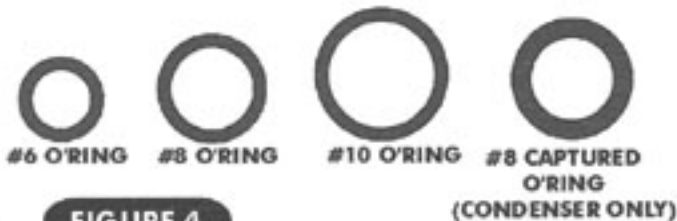
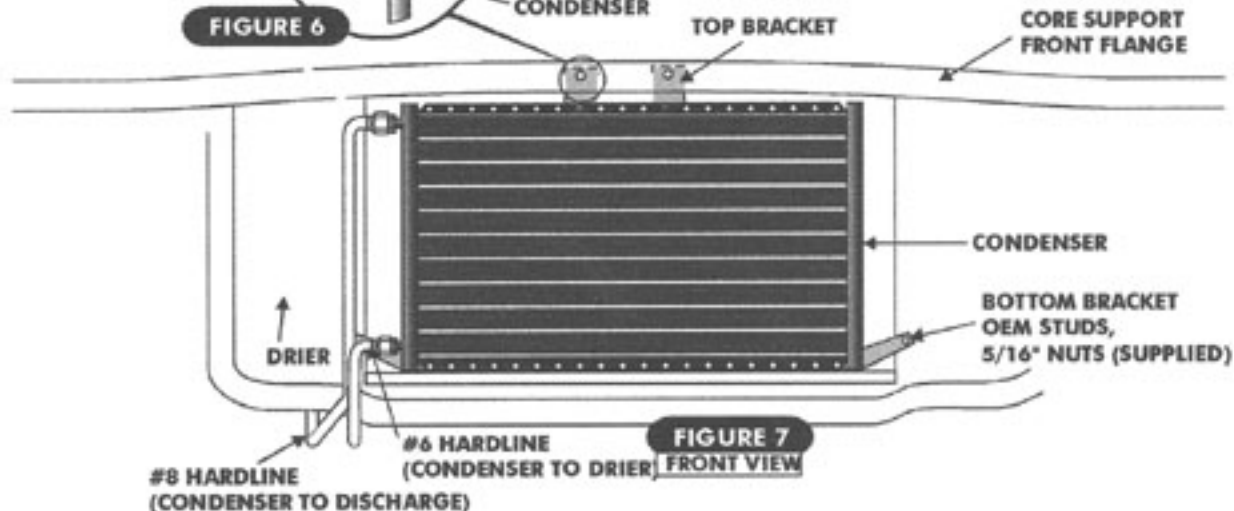
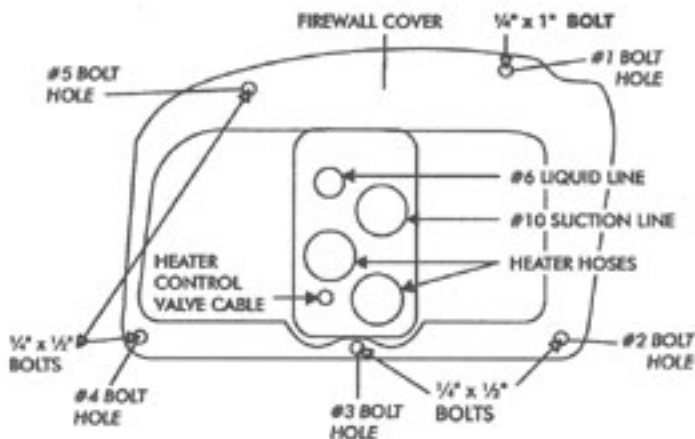
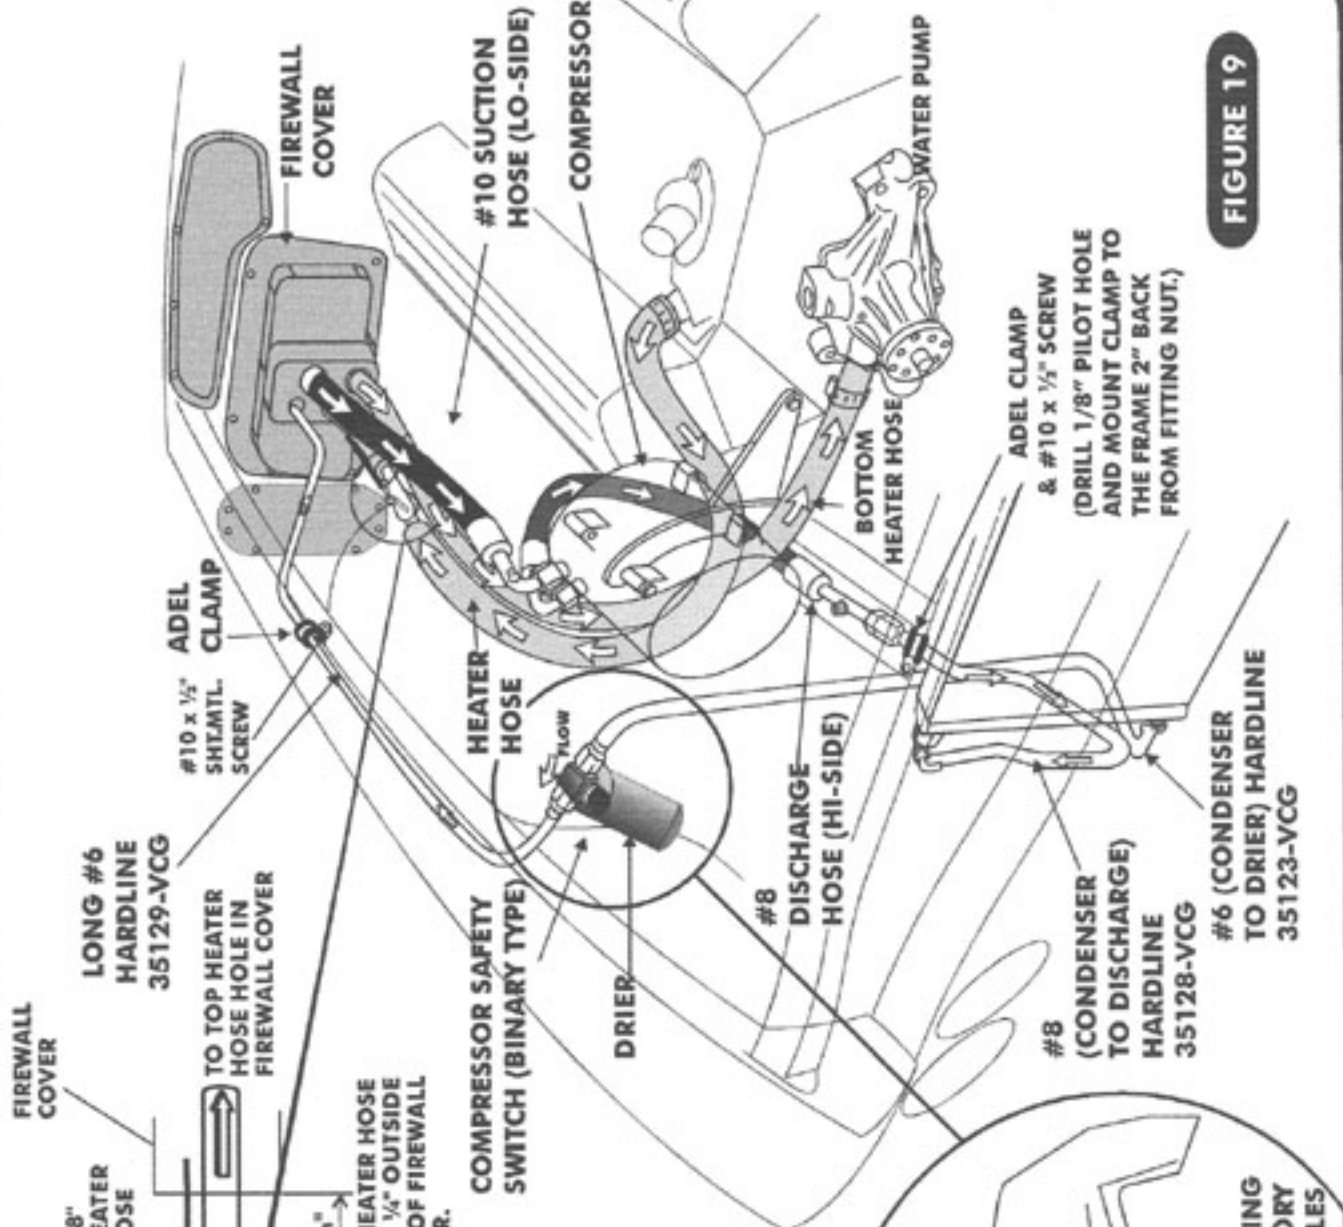

FIGURE 4
FIGURE 7
FIGURE 13
FIGURE 19
- ATTACH CONDENSER TO THE FRONT SIDE OF RADIATOR SUPPORT BY USING THE PROTRUDING RADIATOR ATTACHING BOLTS AS STUDS AND FASTEN WITH THE TWO (2) 5/16" NUTS (SUPPLIED). SEE FIGURE 7, PG. 4.
- LOCATE THE O'RING PACKAGE. THERE IS A SPECIFIC SIZE AND THICKNESS O'RING FOR EACH CONNECTION. THE SMALL WHITE TUBE IS A SPECIFIC OIL FOR O'RINGS AND THREADS. SEE FIGURE 4. O'RINGS SHOULD NOT BE REUSED ONCE A FITTING IS TIGHTENED (DISCARD AND INSTALL NEW O'RINGS). DO NOT OVER TIGHTEN. ALWAYS USE TWO (2) WRENCHES TO PREVENT TWISTING FITTINGS ON HARDLINE (SEE FIGURE 5).
- O-RING (SEE FIGURE 4, PG. 4) AND ATTACH TO THE TOP CONDENSER FITTING. SEE FIGURE 7. ATTACH THE OTHER END TO THE FRAME USING AN ADEL CLAMP AND SHEET METAL SCREW IN THE POSITION SHOWN IN FIGURE 19, PG. 8.
- MOUNT DRIER ON PASSENGER SIDE INNER FENDER-WELL. SEE FIGURE 19, PG. 8. LOCATE THE DRIER BY USING THE O.E.M. DIMPLES AND THE #6 LIQUID LINE FOR EXACT LOCATION. DRILL A 3/8" HOLE IN THE O.E.M. DIMPLE ON FENDER-WELL TO MOUNT THE DRIER.
- REMOVE PIPE PLUG FROM DRIER AND INSTALL BINARY SAFETY SWITCH (INCLUDED IN CONDENSER KIT). SEE FIGURE 19, PAGE 8.
- LOCATE #6 (CONDENSER TO DRIER) HARDLINE AND TWO (2) #6 O-RINGS. LUBRICATE AND INSTALL O-RINGS (SEE FIGURE 4, PG.4) ON THE LINE AND ATTACH TO THE LOWER CONDENSER FITTING AND INLET FITTING ON THE DRIER. SEE FIGURES 7, THIS PAGE AND 19, PG. 8.. TIGHTEN USING TWO WRENCHES (SEE FIGURE 5, PG. 4).
FIREWALL COVER INSTALLATION (SEE FIGURE 13)
- APPLY A BEAD OF SEALER (1/4" TALL) AROUND THE INSIDE EDGE OF FIREWALL COVER AND INSTALL ON THE OUTSIDE OF THE FIREWALL USING FOUR (4) 1/4" x 1/2" BOLTS & NUTS SUPPLIED.
- ATTACH FRESH AIR CAP TO FIREWALL WITH 1/4" x 1" BOLT & 1/4" BEAD OF SILICONE. (SEE FIGURE 13).
- WITH STUD IN PLACE RAISE EVAPORATOR UP AND ALIGN STUD WITH FIREWALL BOLT HOLE #1 (SEE FIGURE 13).
- LOCATE THE (EXPANSION VALVE TO FENDER) #6 HARDLINE AND TWO (2) #6 O'RINGS. LUBRICATE O'RINGS (SEE FIGURE 4, PG. 4) AND ROUTE 90° END THRU TOP FIREWALL COVER OPENING (SEE FIGURE 13) AND ATTACH HAND TIGHT TO EXPANSION VALVE (SEE FIGURE 18, PG. 7). ATTACH OTHER END TO THE #6 HARDLINE FROM THE DRIER. TIGHTEN AT EXPANSION VALVE USING TWO (2) WRENCHES (SEE FIGURE 5, PG. 4) THEN TIGHTEN THE CONNECTION INSIDE THE FENDER-WELL. ALSO TIGHTEN THE CONNECTION AT THE DRIER.
- DRILL 1/8" HOLES FOR ADEL CLAMPS IN POSITION NOTED IN FIGURE 19, PG. 8, AND INSTALL ADEL CLAMPS USING SUPPLIED #8 x 1/2" SCREWS.
- LOCATE THE #8 DISCHARGE HOSE AND TWO (2) #8 O-RINGS. LUBRICATE O-RINGS (SEE FIGURE 4, PG. 4) AND CONNECT THE 135° FITTING TO THE COMPRESSOR'S DISCHARGE PORT AND THE OTHER END TO THE #8 HARDLINE ATTACHED TO THE FRAME AND TIGHTEN USING TWO (2) WRENCHES (SEE FIGURE 5, PG. 4).
- LOCATE THE #10 SUCTION HOSE AND TWO (2) O-RINGS. LUBRICATE O-RINGS AND THREADS (SEE FIGURE 4, PG. 4). PUSH STRAIGHT END THRU FIREWALL COVER OPENING (SEE FIGURE 13, PG. 6) FROM ENGINE SIDE AND ATTACH TO THE SUCTION FITTING ON EVAPORATOR (SEE FIGURE 18). INSTALL 135° END TO SUCTION PORT ON COMPRESSOR. SEE FIGURE 19 ON PG. 8.
- ROUTE HEATER HOSES THRU THE FIREWALL COVER OPENINGS (SEE FIGURE 19, PG. 8.) CONNECT THE HOSES TO THE HEATER CORE AND INSTALL HEATER CONTROL VALVE ORIENTED AS SHOWN IN FIGURE 19 AND 19A, PG.8.
- INSTALL COMPRESSOR SAFETY SWITCH (BINARY TYPE) BEING CAREFUL NOT TO OVER TIGHTEN. SEE FIGURE 19, PG. 8.